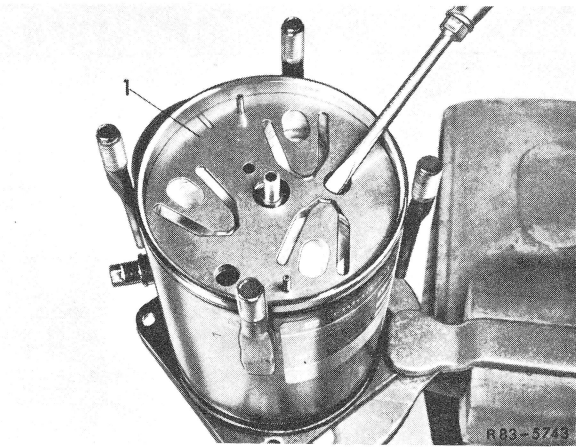

Figure 3 Removing rear suction valve plate
**11** Remove rear suction valve plate by means of two screw drivers, do not pry up on leaf spring valves (Fig. 3).
**33** Install rear intake valve plate over dowel pins with oil return slot in direction of oil sump (Fig. 3).